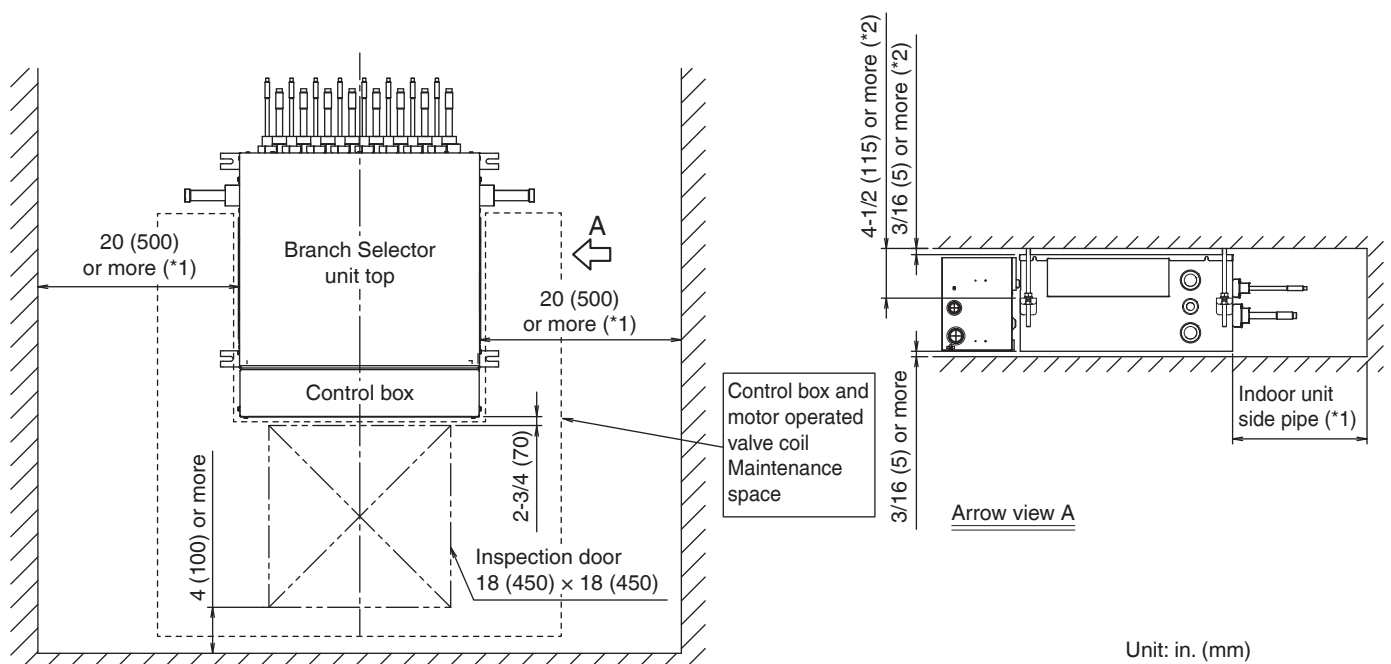

Fig. 2
- There must be adequate space in which to perform installation and service work. (**Refer to Fig. 2.**)
See the next page for Fig. 2.